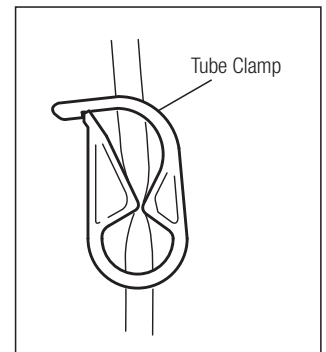

Fig. 9
- 1) Close the Tube Clamp which is placed between the Irrigation Needle and the Irrigation Pump. (Fig. 9)